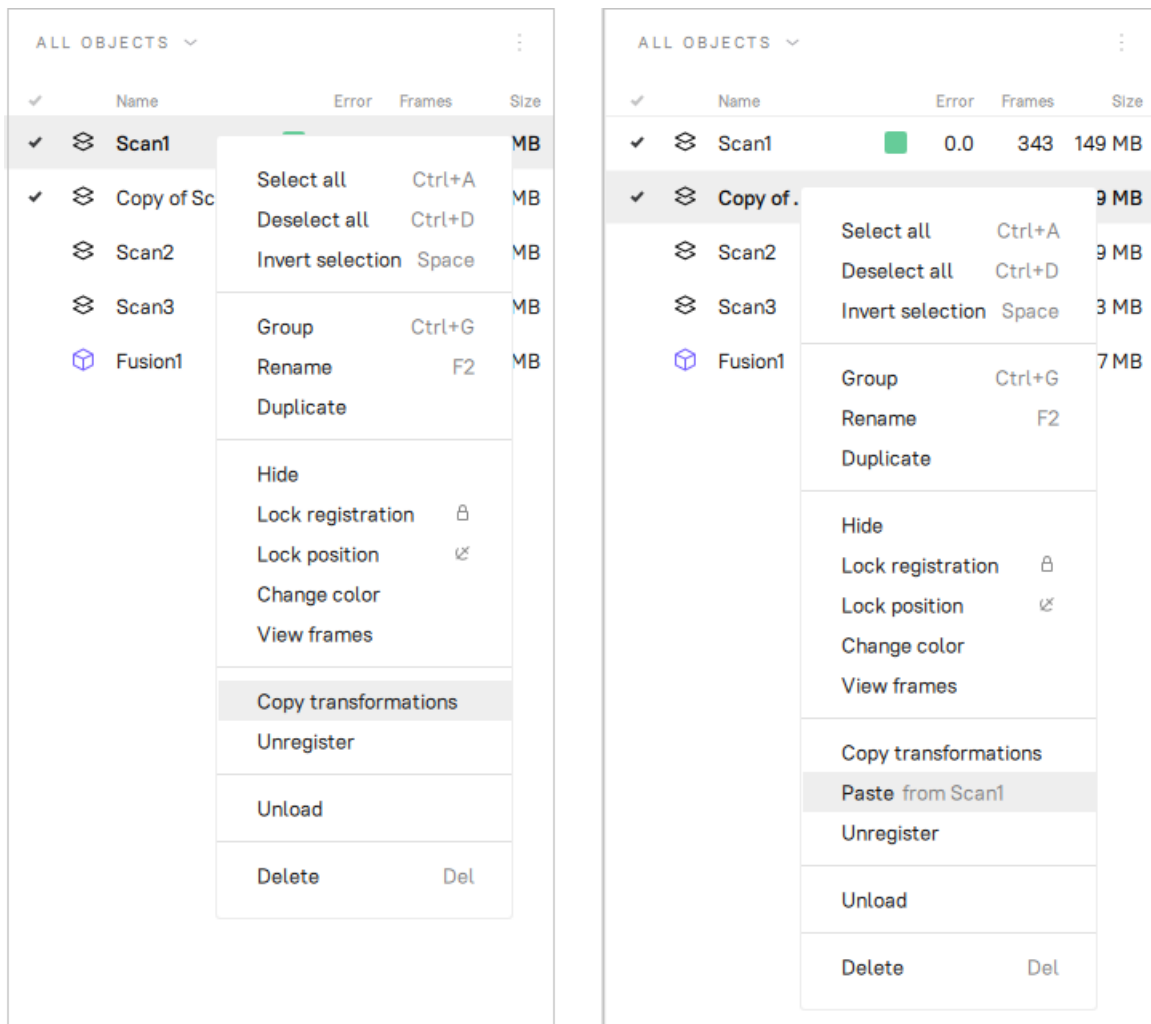

Figure 124: Transferring transformations: copying transformations (left) and pasting them (right)
1. In the Workspace panel, right-click the source scan and choose *Copy Transformation* from the context menu (see Figure 124, left). The transformations of the source scan and its frames will be saved.
3. Right-click the selected scan(s) and from the context menu choose *Paste from <source scan name>* (see Figure 124, right).